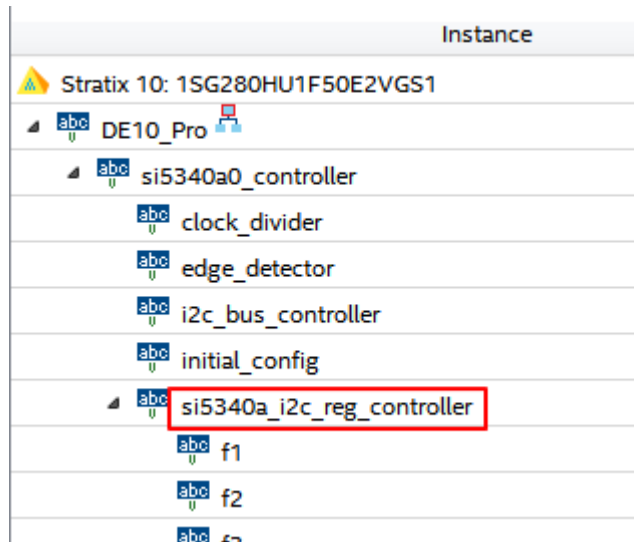

Figure 5-6 Sub-Module file "si5340a_i2c_reg_controller.v"
- Open Si5340 control IP sub-module “si5340a_i2c_reg_controller.v “ as shown in **Figure 5-6**, refer to Design Report parameter to modify sub-module corresponding register value (See **Figure 5-7**).